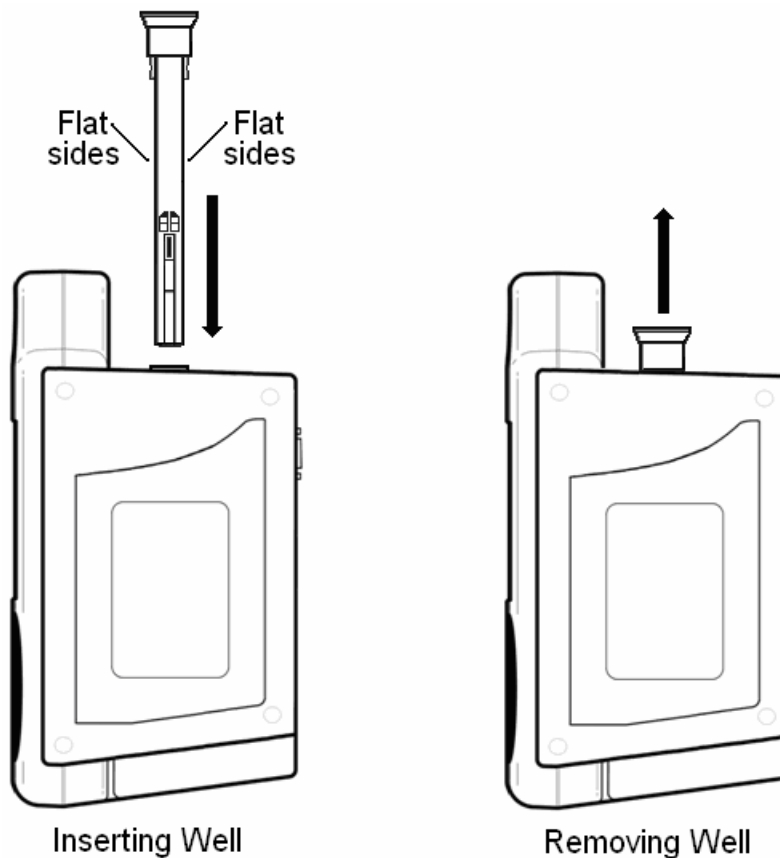

Figure 12: **Inserting & Removing the Probe Well**
- 1) To insert – Position the Probe Well with the flat sides toward the front and rear of the monitor. Slide the Probe Well into the opening at the top of the Temperature module. Push the Probe well all the way down the opening. An audible "click" should be heard when the Probe Well is completely placed into its holder. Refer to Figure 12.
- 2) To remove – Grasp the Probe Well by the flared ring. Gentle pull the Probe Well straight up and continue until the Probe Well is completely out of the opening. Refer to Figure 12.